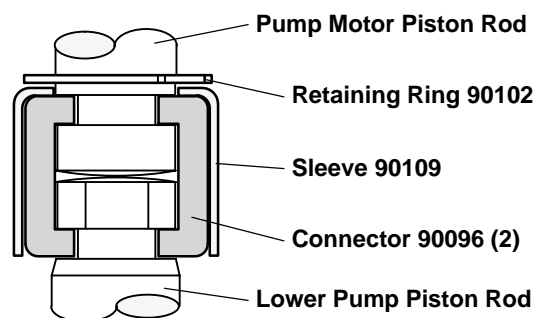

FIGURE 2
4. Using e-ring pliers, slide the retaining ring up far enough to allow the sleeve to move upward and release the two connectors (figure 2).